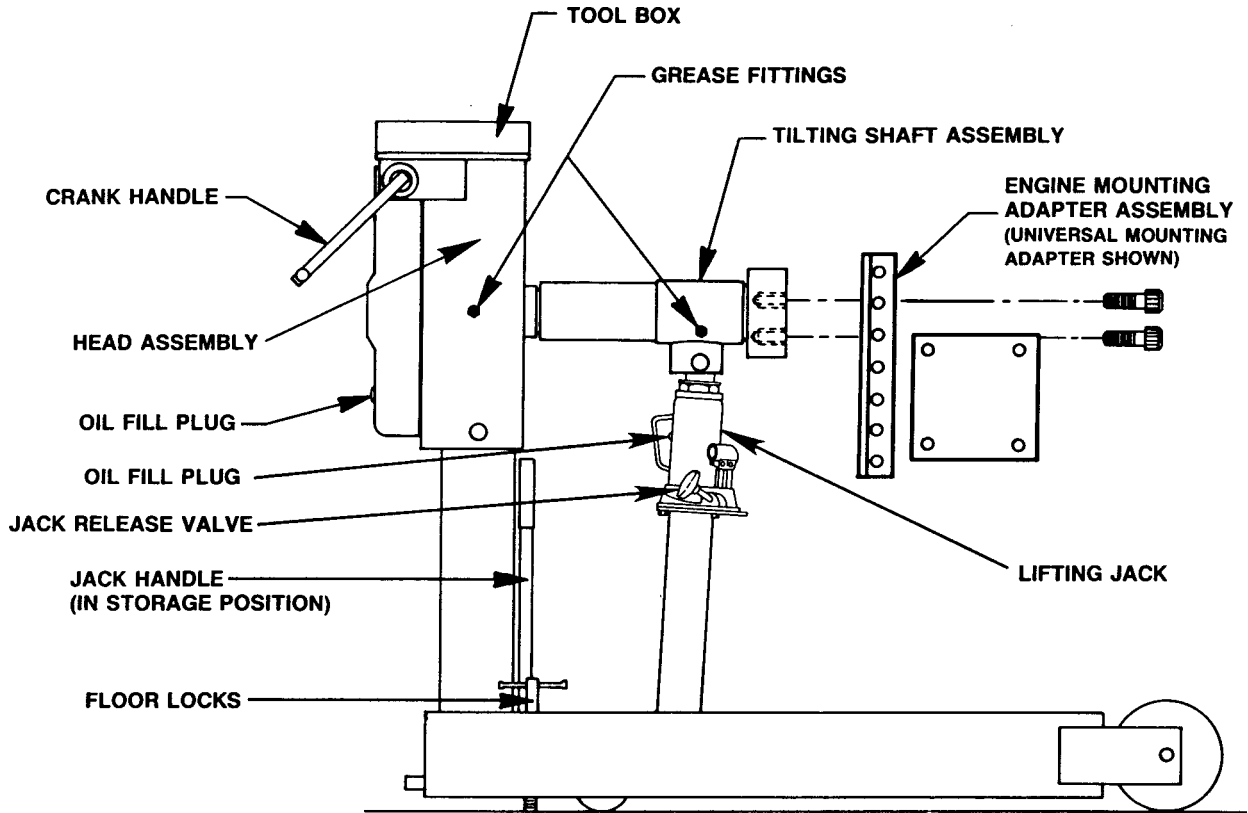

FIGURE 1
7. Place the jack handle in its storage position on the repair stand as shown in Figure 1.
9. If an engine mounting adapter assembly has been provided, attach it to the tilting shaft as shown in Figure 1. Torque the bolts at 450 ft. lbs.